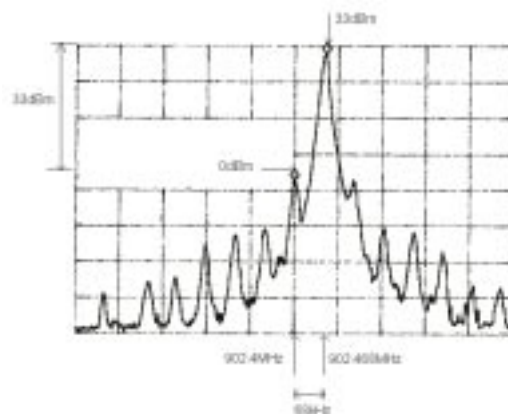

Figure 20: Carrier leakage ratio
2. (Figure 20) On the spectrum analyser measure the carrier leakage ratio. Carrier leakage ratio is measured as the ratio of peak power and the power at 68kHz below peak frequency.